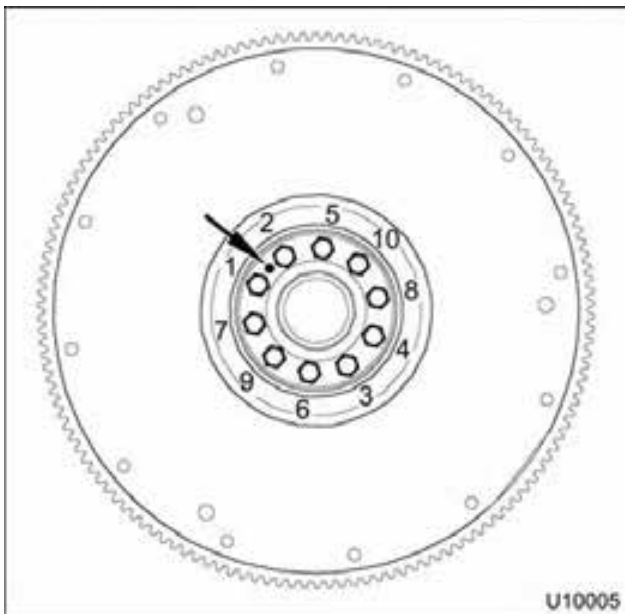

Figure 576 Torque sequence for flywheel assembly bolts and dowel location
6. Snug all bolts in sequence shown (Figure 576) to initial torque of 4 N·m (35 lbf·in).
7. Tighten all bolts in sequence shown (Figure 576) to final torque of 94 N·m (69 lbf·ft).